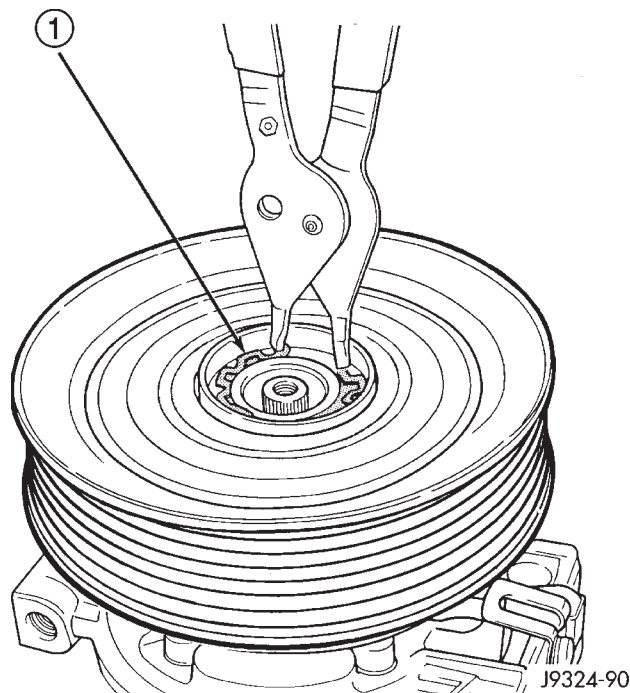

Fig. 7 Pulley Snap Ring
(5) Remove the external snap ring that secures the compressor clutch pulley to the nose of the compressor front housing with snap ring pliers (Special Tool C-4574) and slide the pulley assembly off of the compressor (Fig. 7).